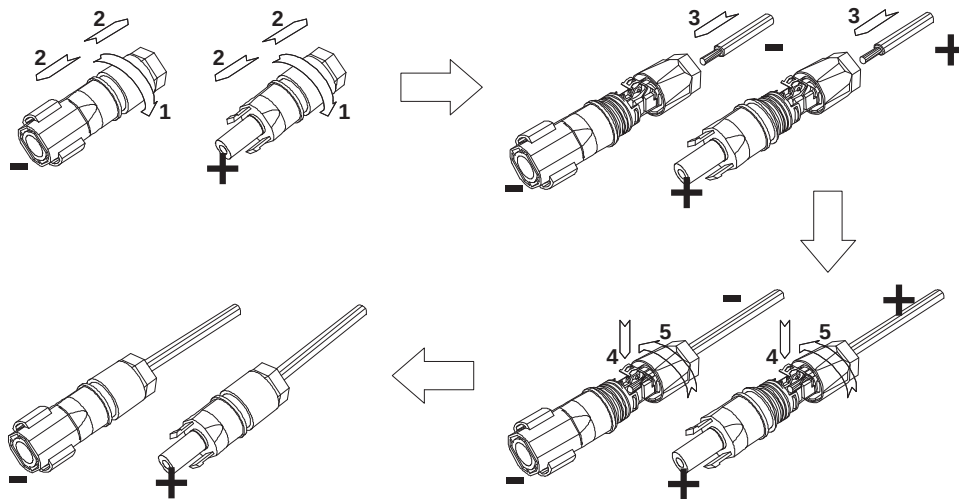

Figure 4.15 Connection between DC connector and solar modules
- (1) Lighting, short-circuit and other protection measures which meet the local electrical safety laws and regulations are needed before the AC connection;
- (2) Connect the output cables of solar modules to the DC connector as figure 4.15 shows. Loose the nut of connector and remove the isolation layer of the DC cable for about 15mm. Insert it into the connector and press until hear the lock sound. Finally fasten the nut to a torque of 2.5-3 Nm. The wiring of negative pole is the same as that of the positive pole. Ensure the poles of solar modules are well connected with the connectors;